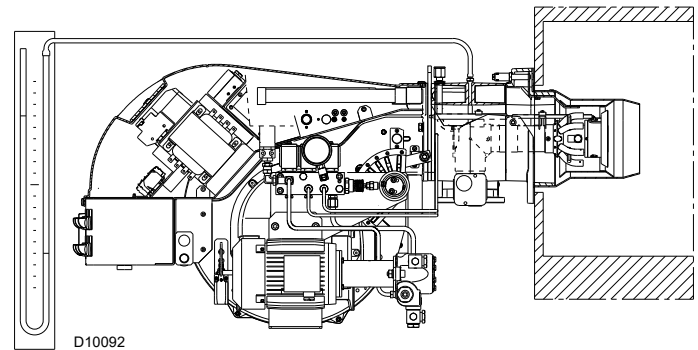

Fig. 46
- Fit a U-type manometer (Fig. 46) to the gas pressure test point on the sleeve. The manometer readings are used to calculate MAX. burner power using the Tab. L at page 34.